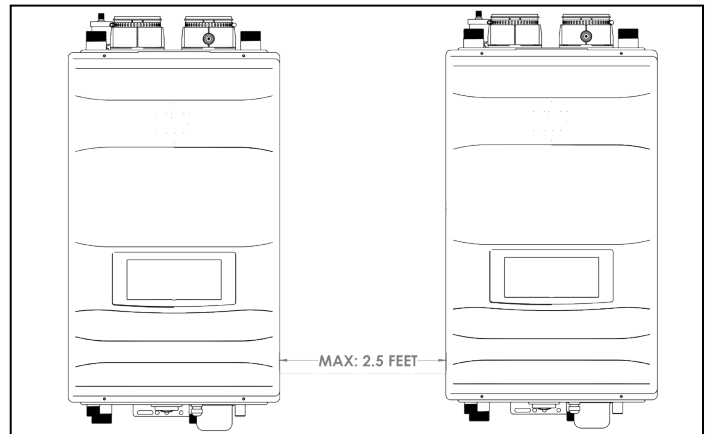

Figure 41 - Maximum Distance Between Wired Cascaded Units
**NOTE:** The maximum distance between units is two and a half feet. See Figure 41. This maximum distance can be increased by connecting additional wire harnesses together. However, the number of units that can be cascaded will be reduced by one for every additional harness used.